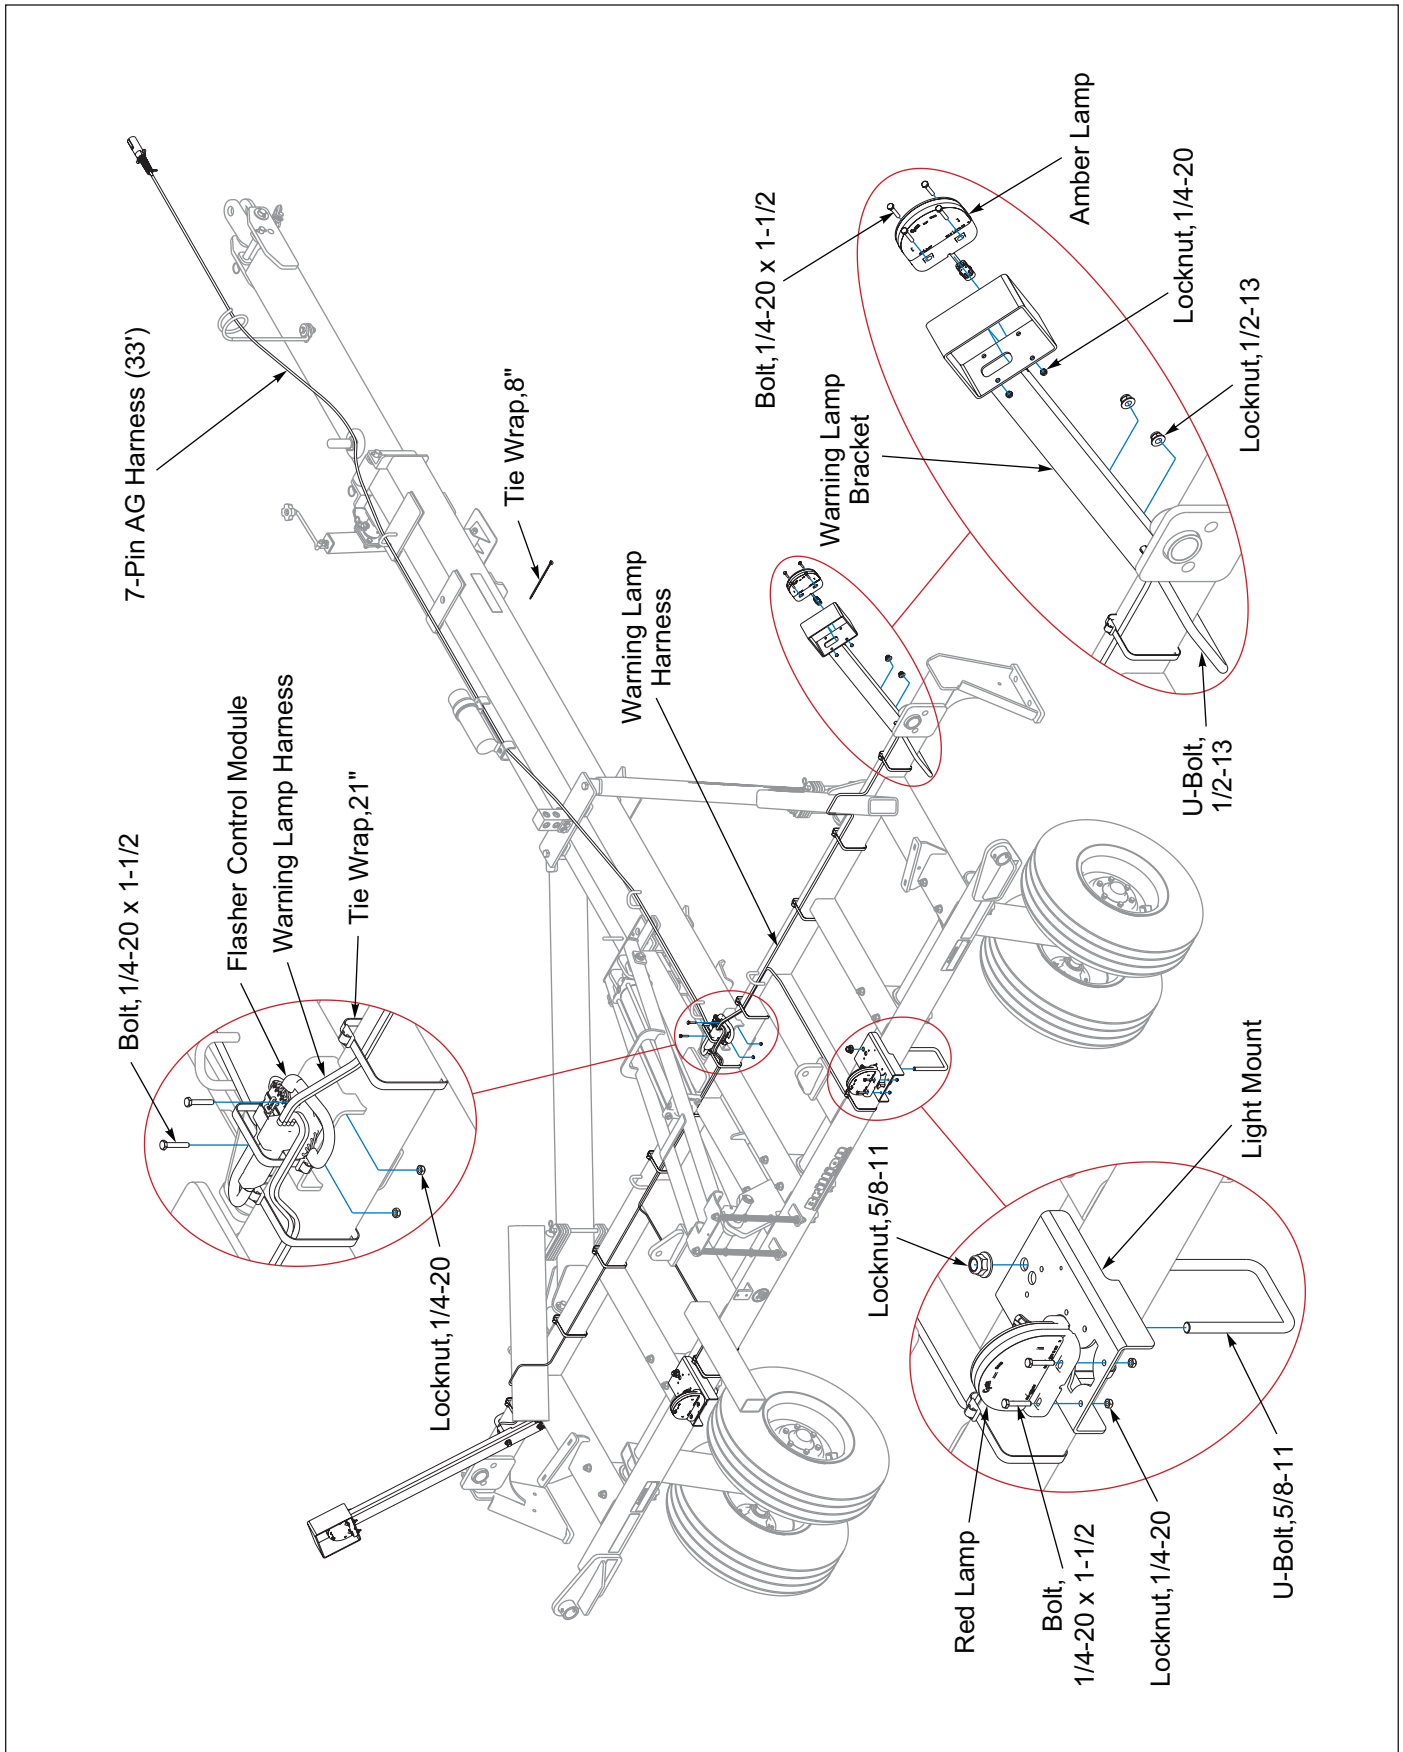

Figure 2-20: Electrical Layout
1. Attach the Light Mounts to the rear frame tube with 5/8-11 U-Bolts and Flanged Locknuts. See **Figure 2-20**.